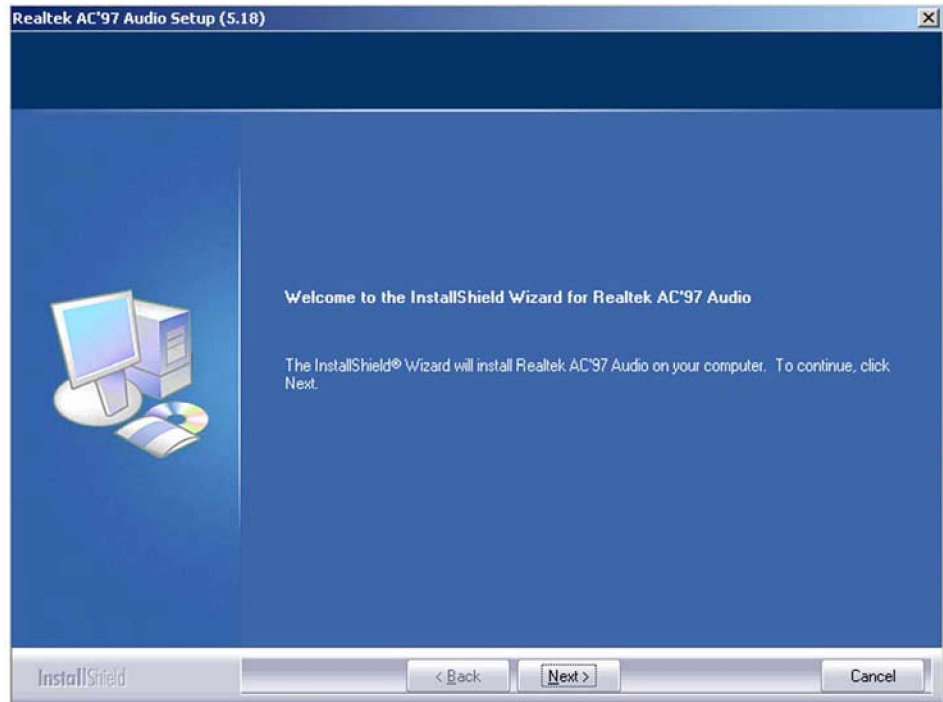
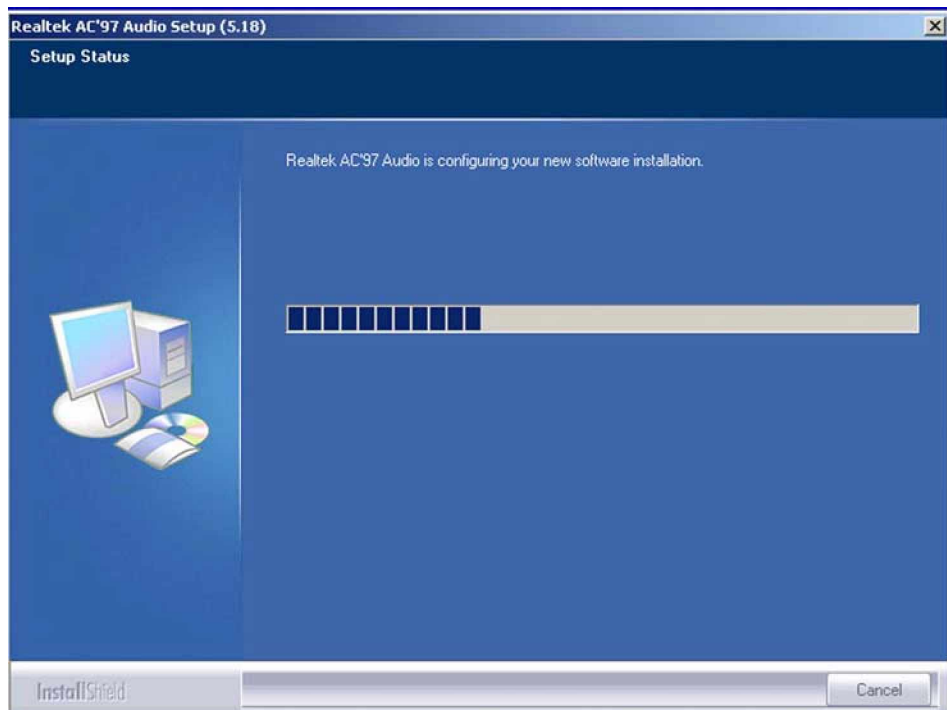

Figure 6-14: Audio Driver Welcome Screen
Figure 6-15: Audio Driver Software Configuration
**Step 4:** After install shield is prepared, the welcome screen shown in **Figure 6-14** appears. To continue the installation process, click the **"NEXT"** button. The install shield starts to configure the new software as shown in **Figure 6-15**.